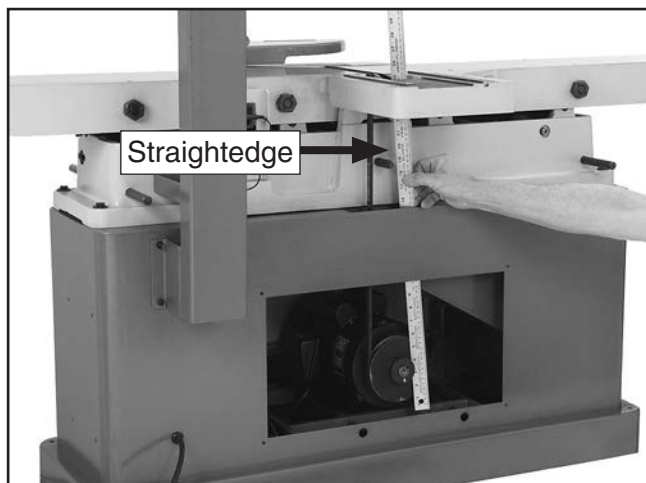
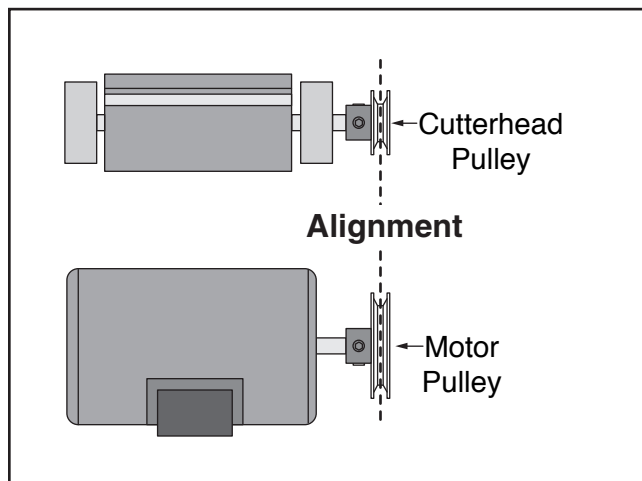

Figure 58. Checking belt alignment.
Figure 59. Pulleys aligned.
3. Place a straightedge against both pulleys (see **Figure 58**) and check to make sure that they are aligned and that the V-belt is straight up and down (see **Figure 59**).
6. Tighten the motor mount fasteners. The V-belt should be parallel and aligned as shown in **Figure 59**.